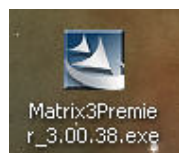

FIG. 12
3. Double click the Matrix3Premier.exe icon (FIG. 12).